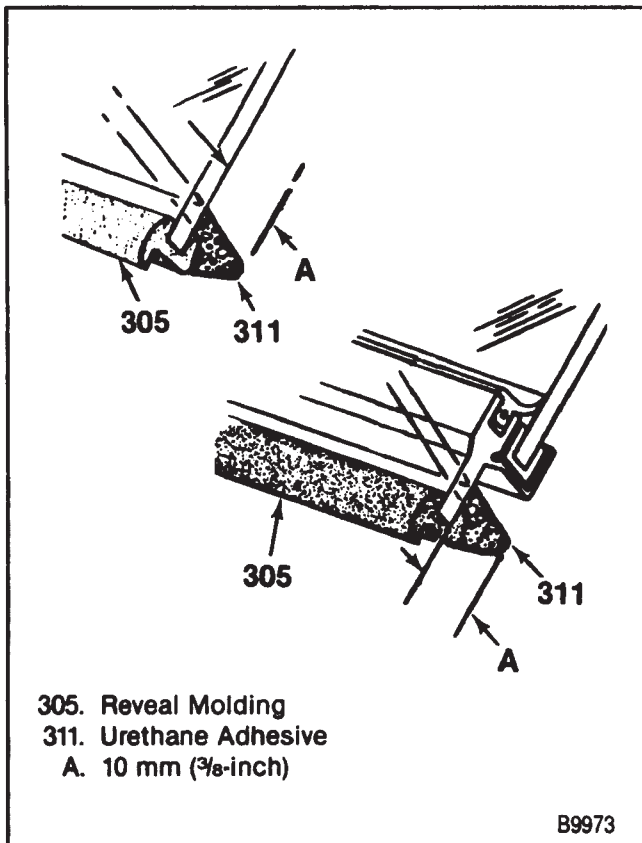

Figure 15—Reveal Molding with Urethane Adhesive
- Press the molding against the window (or aluminum frame on the sliding glass windows) to bond the adhesive to the window (figure 15).
- Press the molding against the window (or aluminum frame on the sliding window) to bond the adhesive to the window (figure 15).